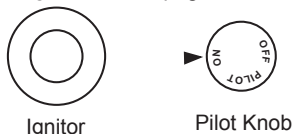

Figure 22 - Pilot Knob In The ON Position
6. Press in pilot knob and turn counterclockwise  to the PILOT position. Keep pilot knob pressed in for five (5) seconds (see Figure 22).